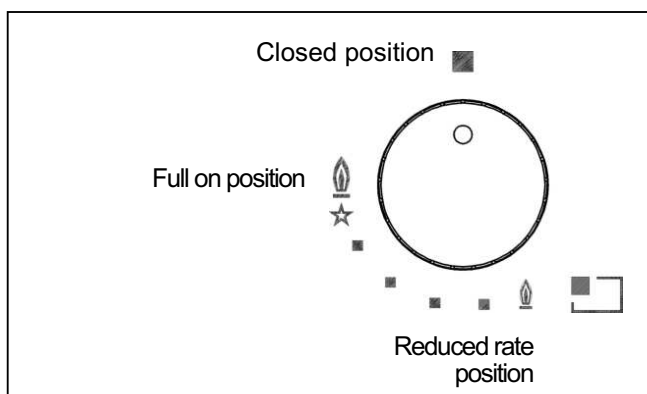

FIG. 1
Push and turn the knob corresponding to the required burner in an anticlockwise direction until it reaches the full on position (large flame fig.1), then depress the knob.
The knobs of burners equipped with flame failure device must be turned in an anticlockwise direction until they reach the full on position (large flame fig. 1) and come to a stop. Now depress the knob in question and repeat the previously indicated operations.
- When the pan comes to the boil, set the knob to the reduced rate position (small flame fig. 1).
- **burners with flame failure device may only be ignited when the relative knob has been set to the Full on position (large flame fig. 1).**